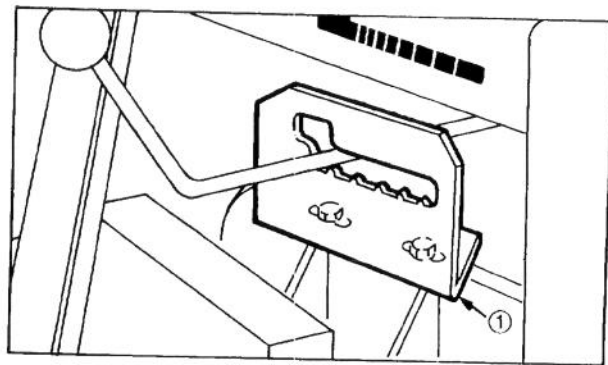

Figure 33
1. Loosen (2) capscrews mounting gear shift guide to transmission (Fig. 33).